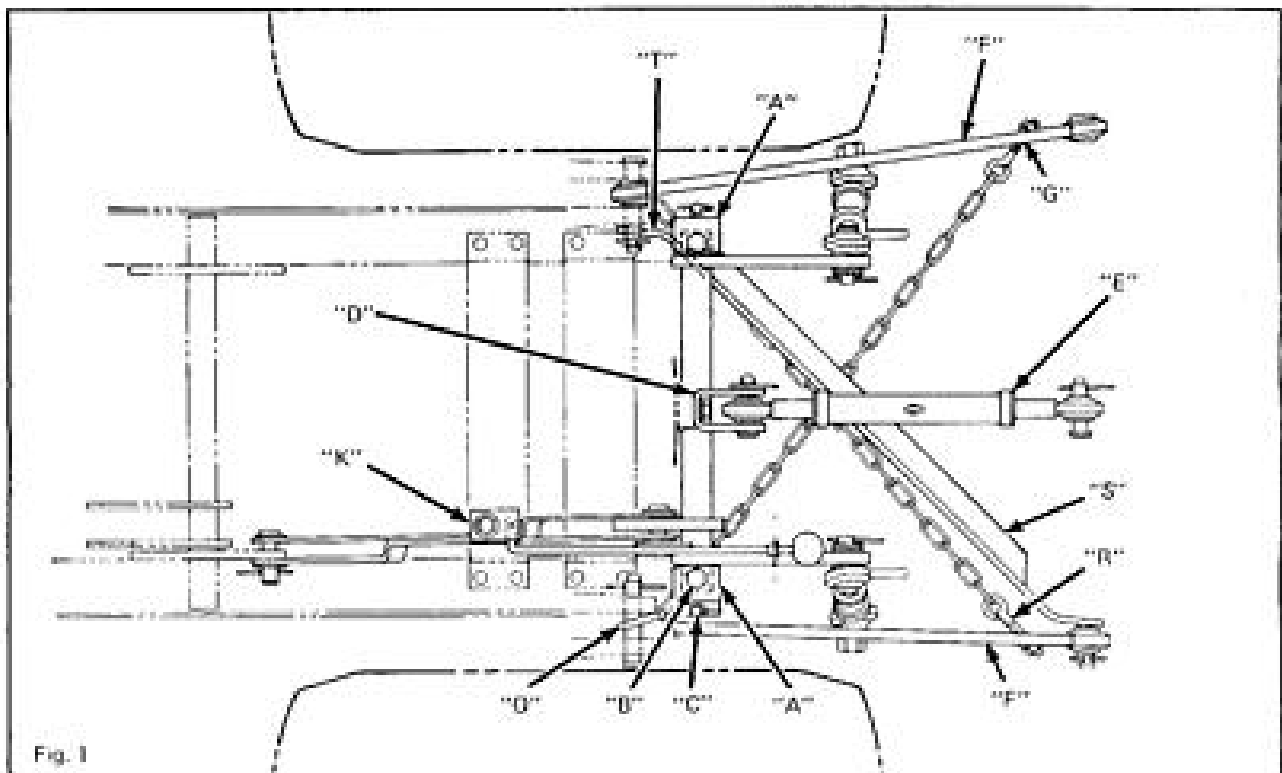

Fig. 1
1. Place pivot shaft supports (A) over the ends of the pivot shaft with the chamfer to the top.
2. Place the above assembly into the rear of the frame rails with the two arms on the left side of tractor and the long arm up. See Figure 1. Secure into place with hex capscrews 1/2-13 x 1 and lockwasher (B).
3. Install grease fitting (C) into each pivot shaft support.
Cross the chains so that the left-hand lower link assembly and right-hand chain is connected and the right-hand lower link assembly and left-hand chain is connected. Raise hitch to fully raised position and take out play in chains by adjusting lock nuts on eyebolts (R). Adjust chains so that there is approximately 20 inches (50 cm) inside between lower link assemblies. See Figure 1.
An anti-sway bar (S) Figure 1 is furnished with this hitch. An anti-sway bar is generally used when the attachment normally produces a side load. The anti-sway bar may be used when doing side hill plowing, but not contour plowing.
TO ATTACH ANTI-SWAY BAR (FIGURE 1):